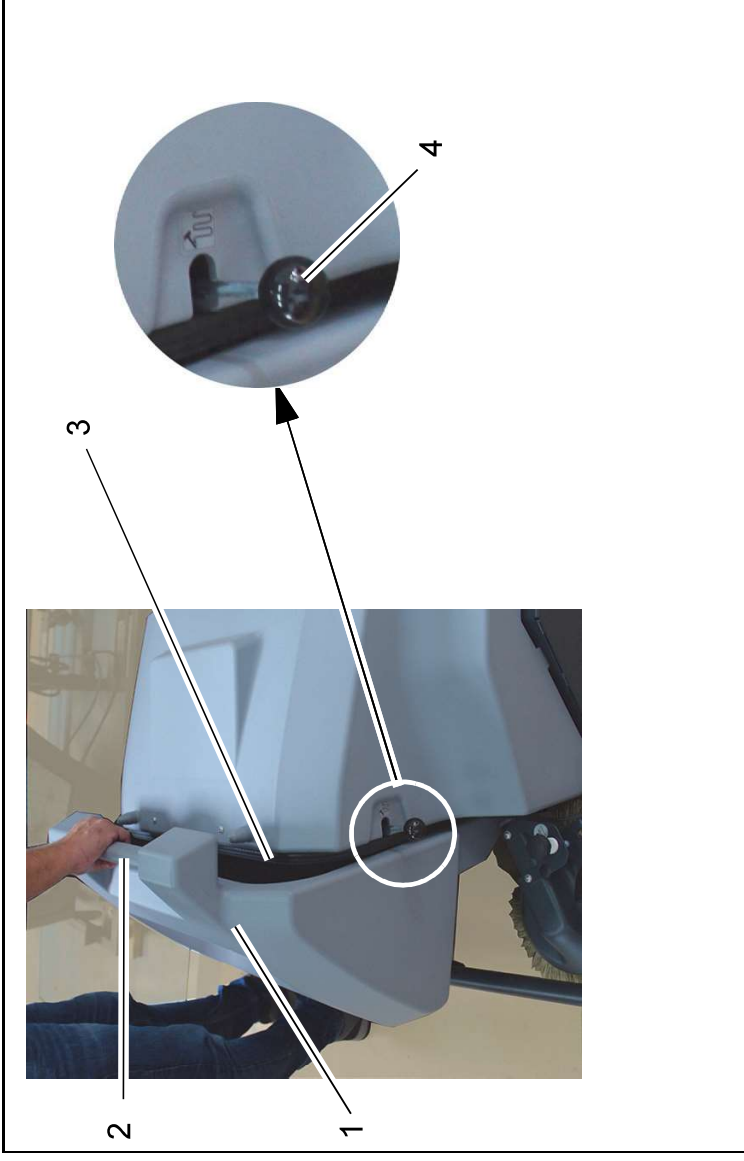

Fig. 6
2. Pull the dirt hopper (Fig. 6/1) upwards using the handle (Fig. 6/2) and dispose of the contents in an environmentally friendly way.
Inspect the dirt hopper seal (Fig. 6/3) weekly and replace if wear is present.
Clean the filter multiple times per day using the shaking system (Fig. 6/4). To clean the filter, pull out the lever of the shaking system several times and slide back in again.